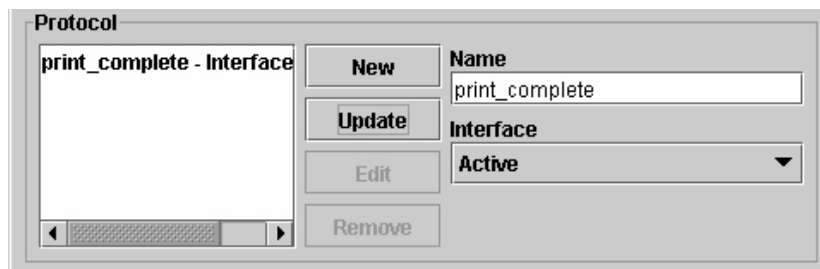

Figure 165. Adding Protocols
11. Click **Add** to add it to the list of protocols. See Figure 165.